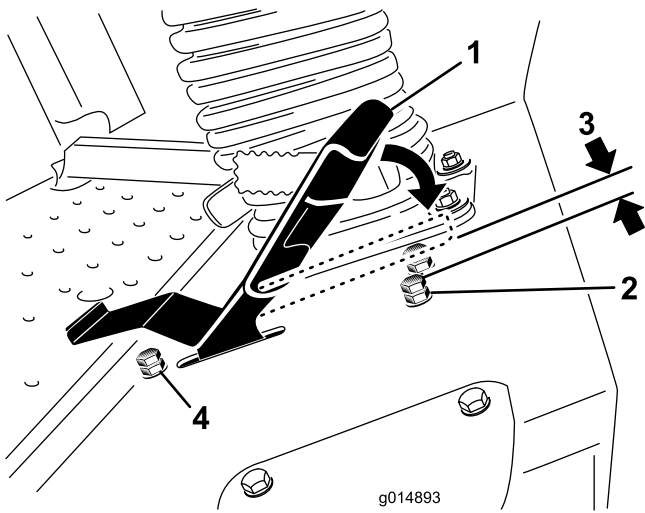

Figure 51
3. Loosen the jam nut on the stop bolt for the traction pedal (Figure 51).